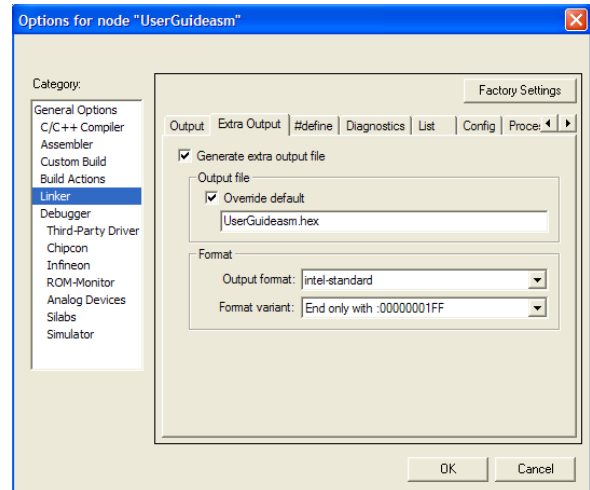

Figure 29. Hexadecimal File Define
2. Under the **Extra Output** tab, in the **Output file** box, type the name of the hexadecimal file that is going to be generated complete with a .hex file type (see Figure 29).